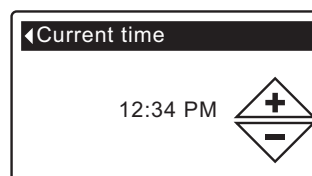

FIG. 26
5. Press the SELECT (O) button to display the Current time screen (See Figure 26).